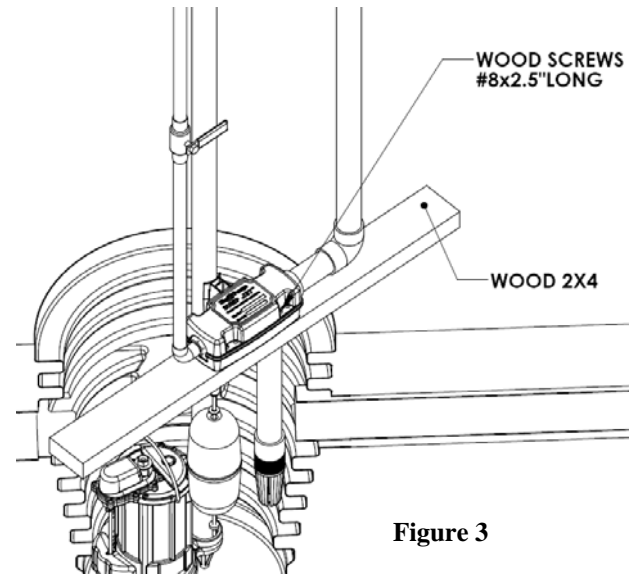

Figure 3
- This unit must have a shut-off valve installed on the water supply line. (Refer to figure 3)